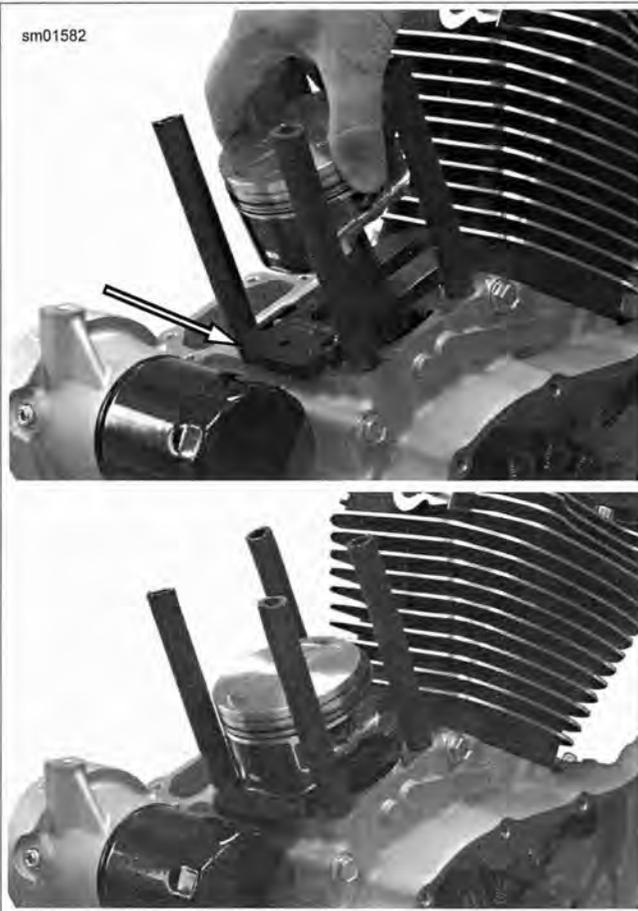

Figure 3-91. Piston Support Plate
8. See Figure 3-91. Install PISTON SUPPORT PLATE (Part No. HD-42322) as shown. Turn engine to rest piston on support plate.